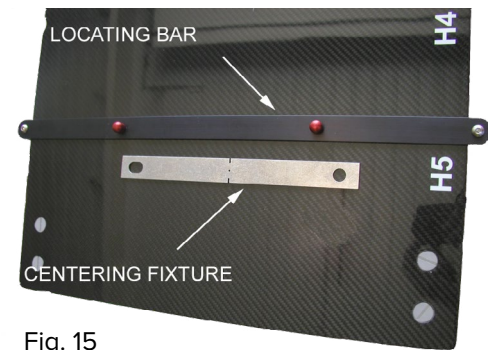

Fig. 15
1. Install the Locating Bar on the CT Overlay and then set the Centering Fixture Bar on the Locating Bar at the head end of the CT Overlay (Fig. 15).